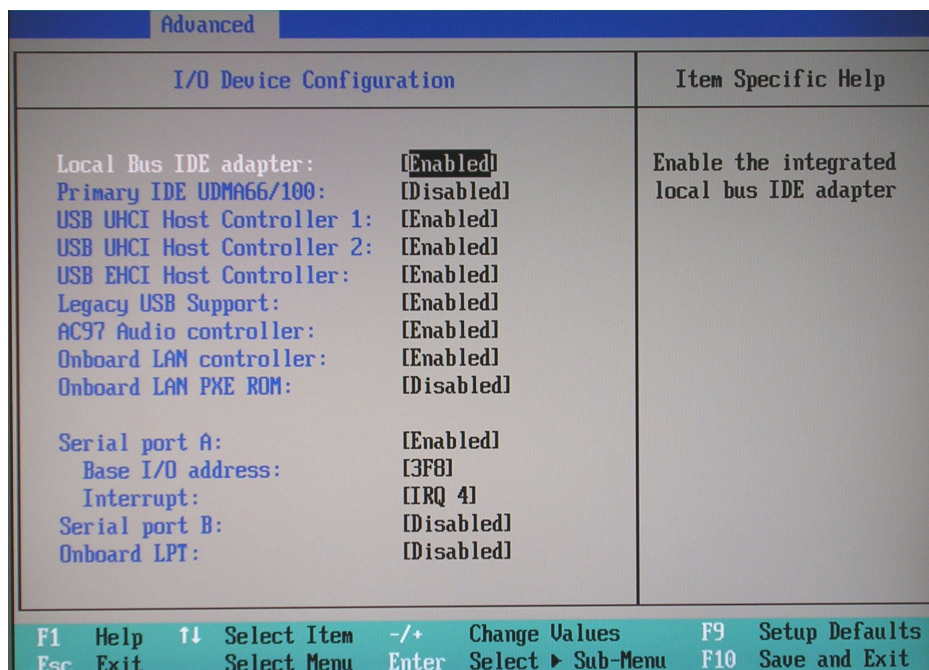

Figure 8-113 BIOS Advanced I/O Device Configuration Parameters
Memory Cache	Figure 8-113 on page 8-111
I/O Device Configuration	Figure 8-113 on page 8-111
- 12.) Set the parameters in the **I/O Device Configuration** screen as shown above in Figure 8-113.